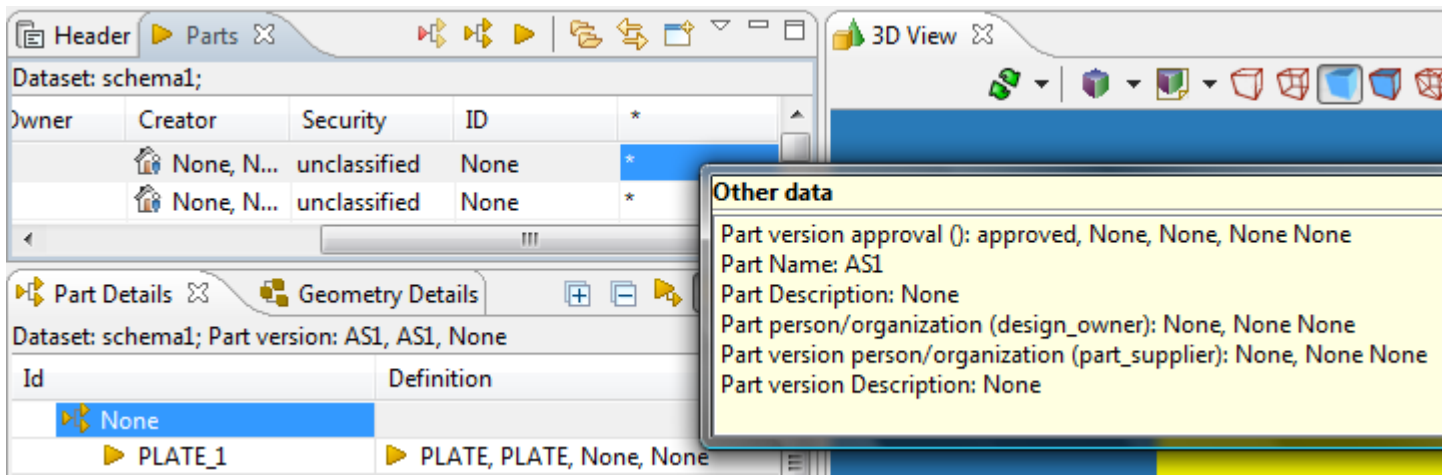

Figure 1. Other data window
- Press with a mouse button on the most right column cell with an asterisk. The **Other data** window appears with available additional data (see Figure 1).